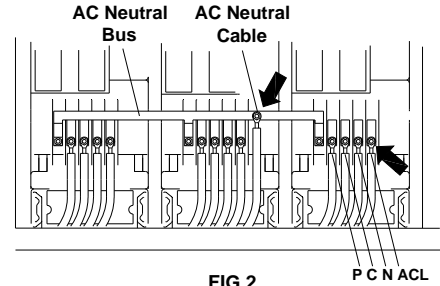

FIG.2
2. Disconnect OLB Cable from bottom of Cell. Access from below through LV Compartment. Figure 2.
2. Disconnect (3) OLB Cables from bottom of the Cells. Access from below through LV Compartment. Figure 2.
2. Disconnect AC Neutral Cable. Disconnect and remove AC Neutral Bus. Figure 2.
3. Disconnect Power Cables P,C,N & ACL. Figure 2.